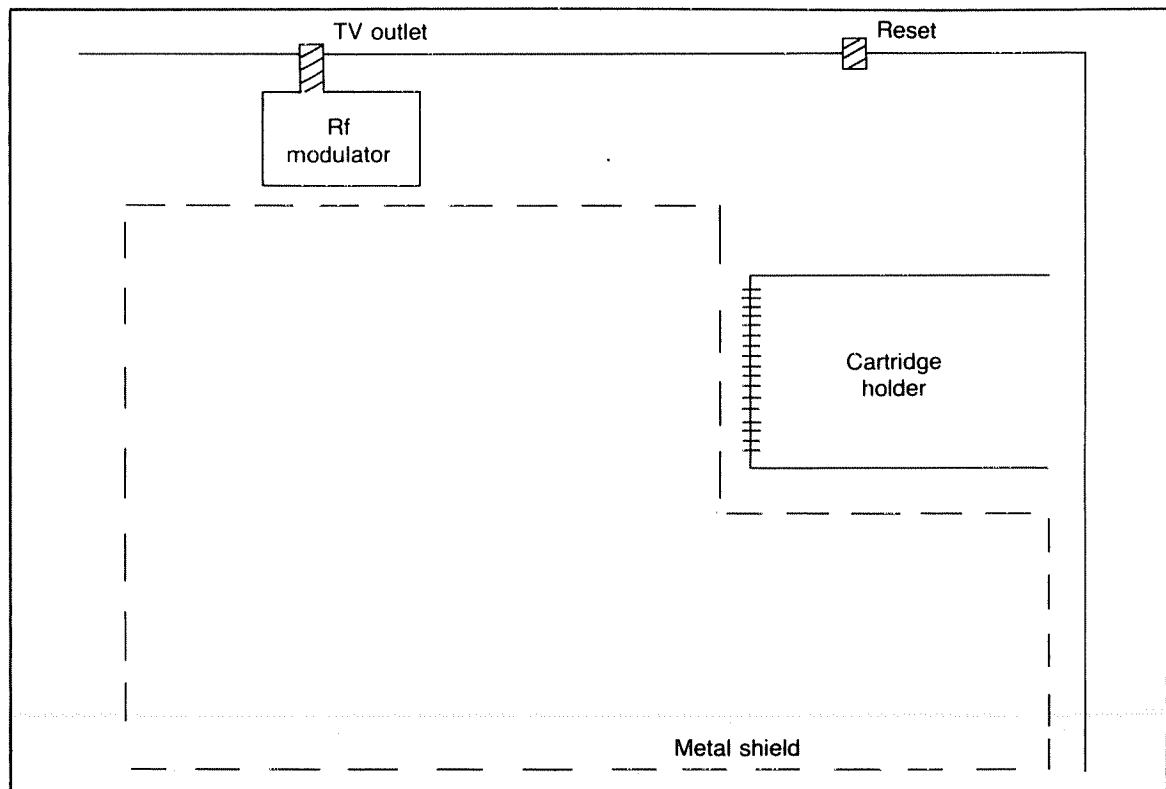

Fig. 3-8. The location of extra circuits in the computer and plugs and adapters, is valuable information during troubleshooting.
- The location of any extra circuits such as a TV modulator (Fig. 3-8).